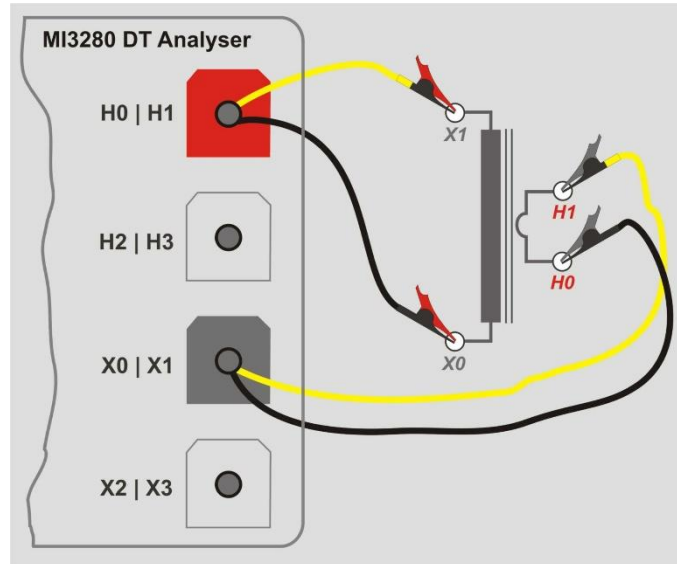

Figure 11.10: Single-phase CT transformer turn ratio measurement connection
11.2.1.2 Current transformers (CT)
To measure single-phase current transformer (CT) you need to connect **H1|H0** connector (red terminal: black and yellow wires) and **X1|H0** connector (grey terminal; black and yellow wires) to appropriate MI 3280 socket like shown in *Figure 11.10*. Please note that when measuring current transformer, high voltage winding is connected to H clamps and low voltage winding to X clamps.
- ❑ Connect CT transformer like shown in *Figure 11.10*.